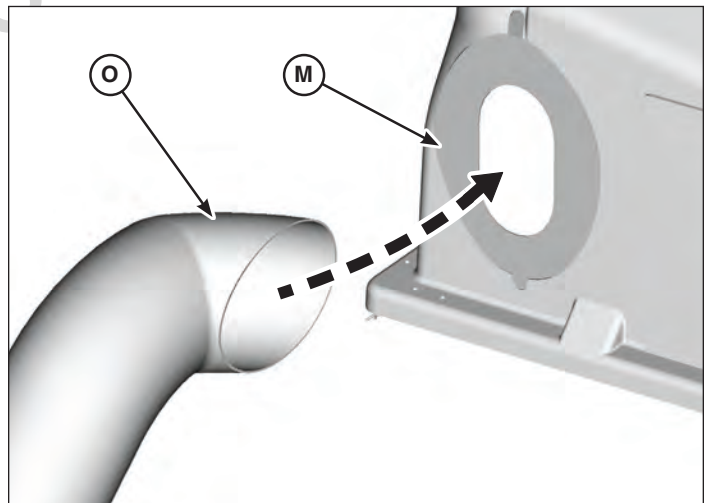

Figure 23
- Slide the upper tube (O, Figure 23) through cover seal (M).